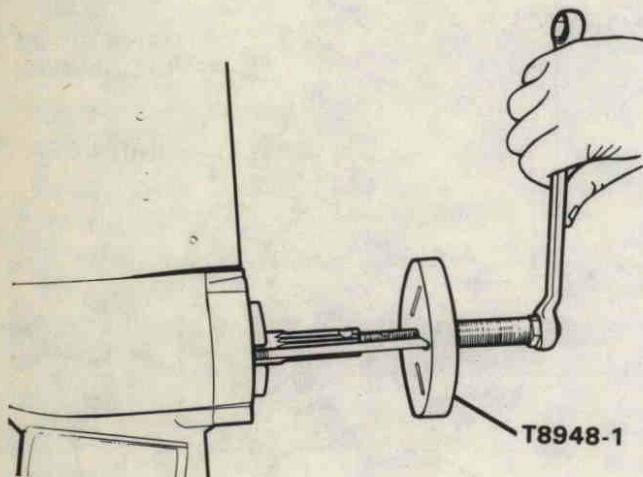

Figure 50. Removing Bearing Cage.
- A. Remove two (2) hex socket head capscrews securing bearing cage assembly to lower gear housing.
- B. Install puller (Special Tool No. T 8948-1) as shown in Figure 50, and remove bearing cage assembly.